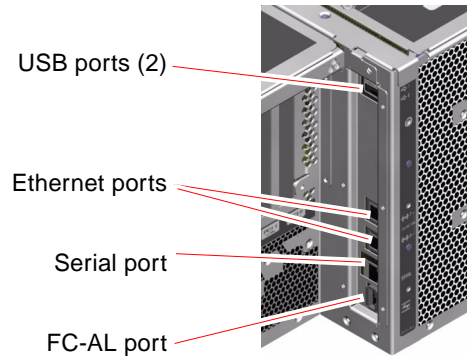

FIGURE 2-4 Back Panel External Ports
- One system controller (SC) card slot
- Six external data ports: USB, serial, Ethernet, and FC-AL (see FIGURE 2-4)